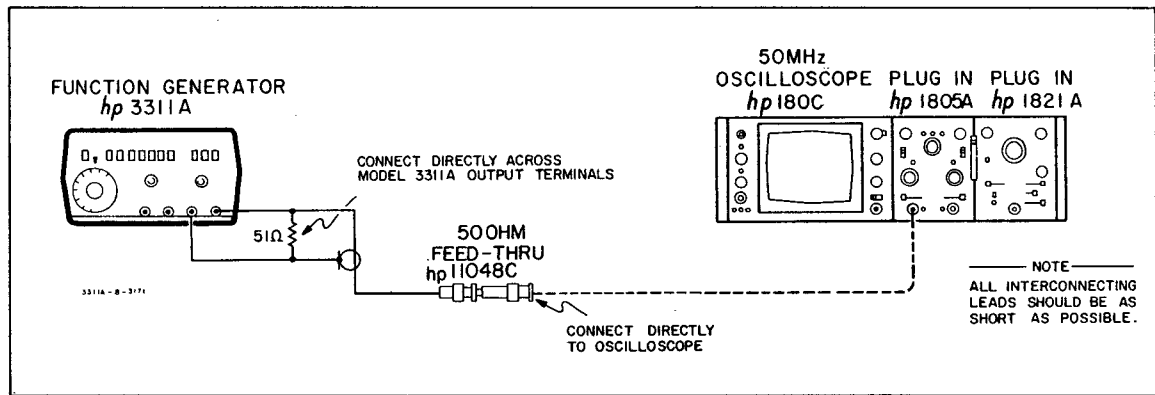

Figure 5-5. Transition Time Tests.
a. Connect the 3311A as shown in Figure 5-5.